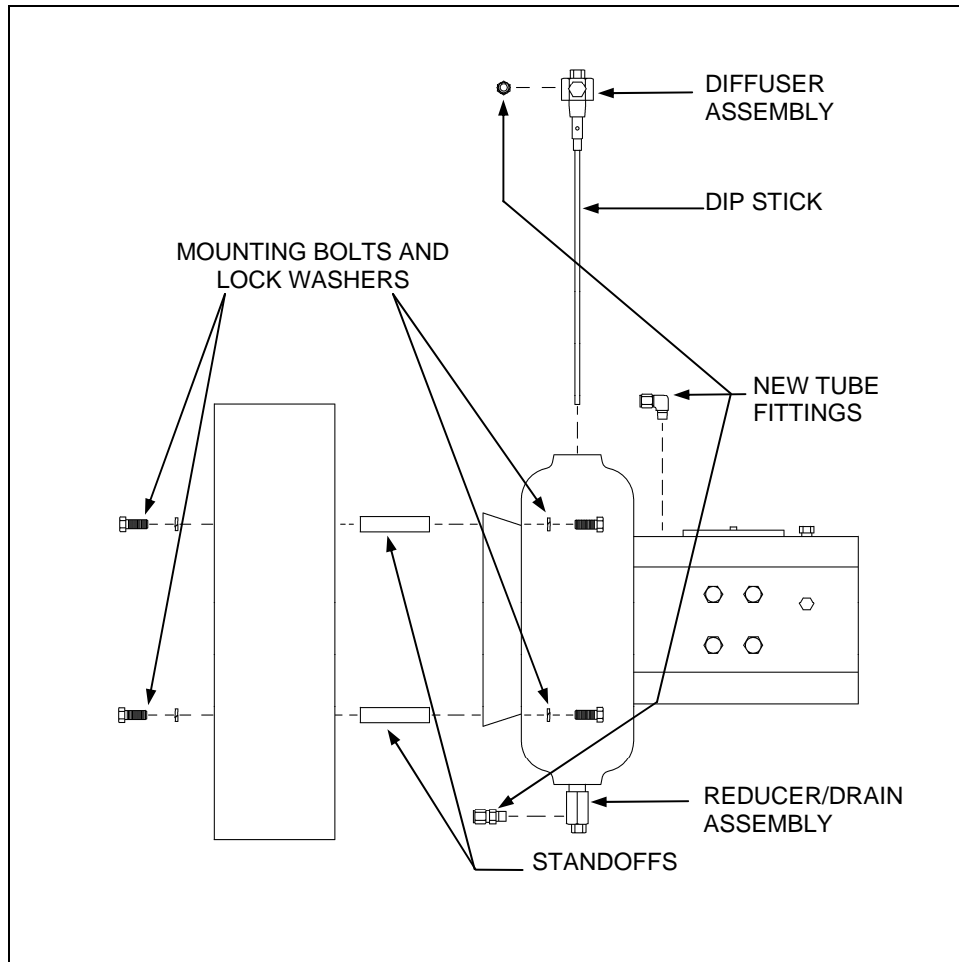

Figure 3: Installing New Control
1. Using 4 of the 8 mounting bolts and lock washers, install the four standoffs to the mounting bracket. Do not tighten the bolts. (See Figure 3)
18. Install new Swagelok® fittings in the hand pump, actuator upper head, poppet block control solenoid valves and tanks. (See Figures 3 and 7) Apply an appropriate pipe sealant to the threads.
20. Run tubing from the discharge ports located on top of the hand pump valve body, or optional speed controls if applicable. The right side of the pump runs to the port on the right in the upper head of the actuator (as you are facing the new hand pump). The left side of the pump runs to the port on the left in the upper head of the actuator. (Make sure you are using the ports, in the upper head, closest to control box not the ones on the far side see Figure 3).